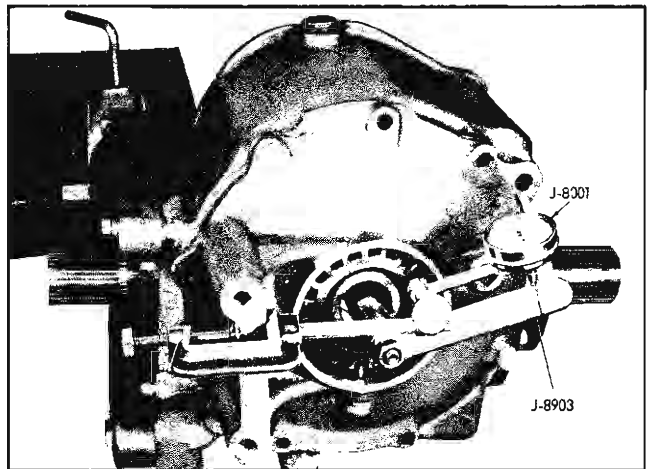

Fig. 4-63 Tools in Position for Adjusting Backlash
22. Install tool J-8903 inside of differential case and set up dial indicator as illustrated (Fig. 4-63). Dial indicator should rest squarely on line scribed on handle of J-8903.